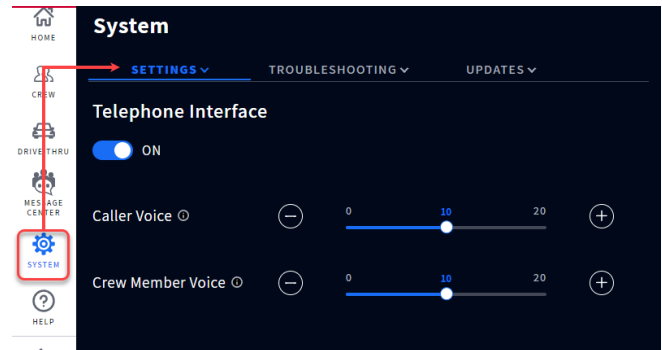

Fig. 11.4
2. Log in to the NEXEO base station and go to **SYSTEM>SETTINGS**. Select Telephone Interface from the drop-down list, see Fig. 11.4. Toggle the OFF switch ON. The recommended default values are set to 10. If necessary, the volume levels can be adjusted using the sliders.